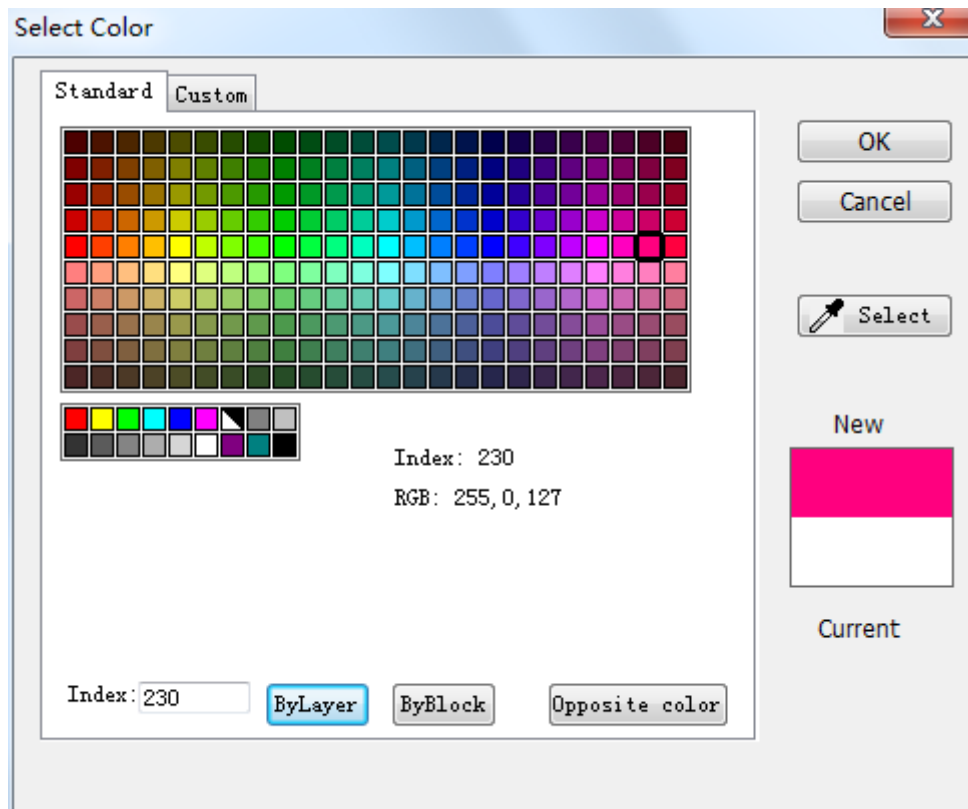

Figure 1-55 Standard Color tab
- (1) Start the command Color, dialog box as in figure 1-55 will popup, by default, it uses standard color.
- (2) Keep default Standard tab.